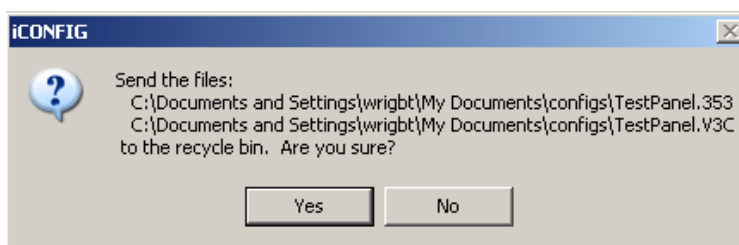

Figure 7-7 Confirm deletion message
3. Click **[Open]**. You can also double-click on the file name. A confirm deletion dialog message will display. See Figure 7-7.